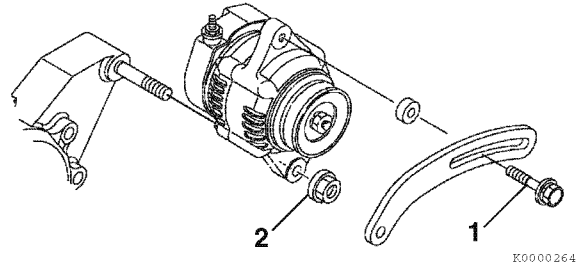

Figure 11-19
- Position the alternator on the gear case. Loosely reinstall the nut (**Figure 11-19, (2)**) on the gear case stud and the V-belt adjuster bolt (**Figure 11-19, (1)**).